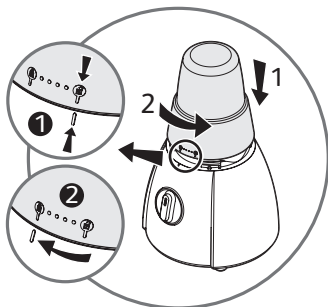

fig.6
- Rotate the assembled universal mill (F) and position it on the motor unit (D). The lock (open)  is aligned in the slot on the motor unit (D) (figure 6).
- Rotate the assembled universal mill (F) though a turn anticlockwise until the lock (closed)  appears (figure 6).
- Connect the appliance and start up by turning speed selector (E) to "Pulse," "1," or "2".
- To stop the appliance, bring the speed selector (E) to "0".
- Wait for the appliance back to a complete stop before removing the universal mill (C).
- Remove the universal mill (F) by unlocking it in opposite direction to installation.